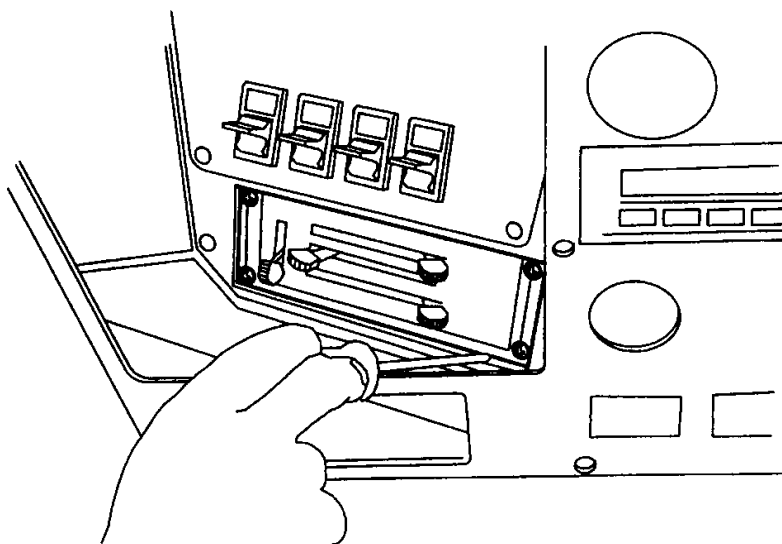

Figure 47 Cab Control Assembly Mounting Screws
2. Remove four screws from cab control assembly (Figure 47).
4. Install four control assembly mounting screws (Figure 47).
5. Remove four screws from cab control assembly (Figure 47).
5. Slide control assembly into dash and secure with four mounting screws (Figure 47).